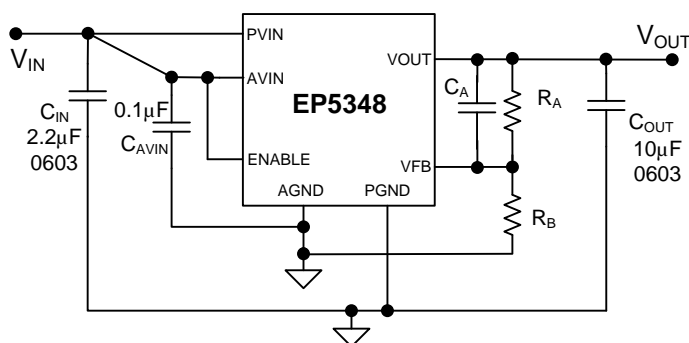
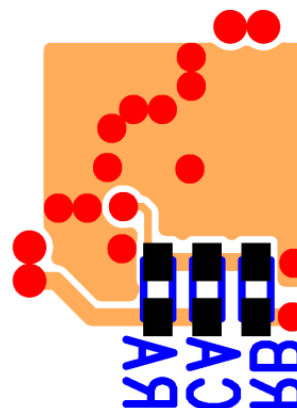

Figure 3: Typical Application Circuit
Figure 5: Bottom PCB Layer Critical Components ( $R_A$ ,  $R_B$ ,  $C_A$ ) & Copper for Minimum Footprint
Referring to Figure 3, use 200 kΩ, 1% or better for the upper resistor ( $R_A$ ). The value of the bottom resistor ( $R_B$ ) in kΩ is given as:
**Recommendation 4:** As Figure 5 shows,  $R_A$ ,  $R_B$ , and  $C_A$  have been placed on the back side to minimize the footprint. These components also need to be close to the VFB pin (see Figures 3, 4 and 5). The VFB pin is a high-impedance, sensitive node. Keep any trace connected to this node as short and thin as possible. Whenever possible, connect  $R_B$  directly to the AGND pin instead of going through the GND plane. In the layout shown above,  $R_B$  goes to the via next to AGND pin using a dedicated trace on layer 3 not shown here. Please see the Gerber files at [www.altera.com/enpirion](http://www.altera.com/enpirion).